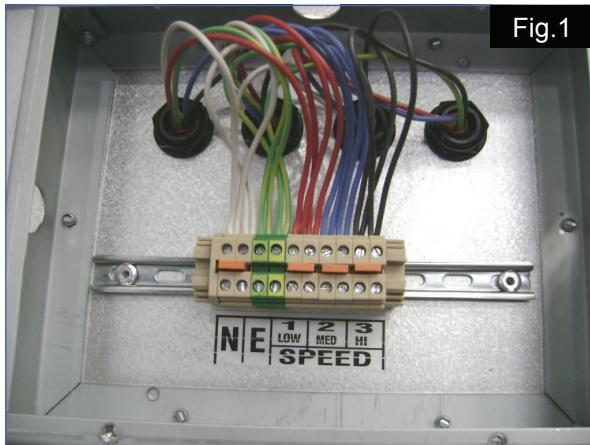

Fig.1
**1:** Identify the 4 fan module terminal box as shown in Fig.1